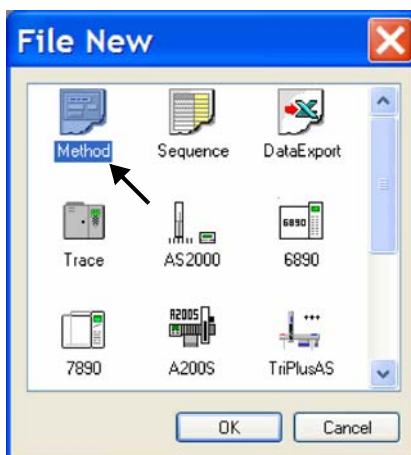

Figure 3-54. Creating a new method
4. Double-click on the **Method** icon. See Figure 3-54.